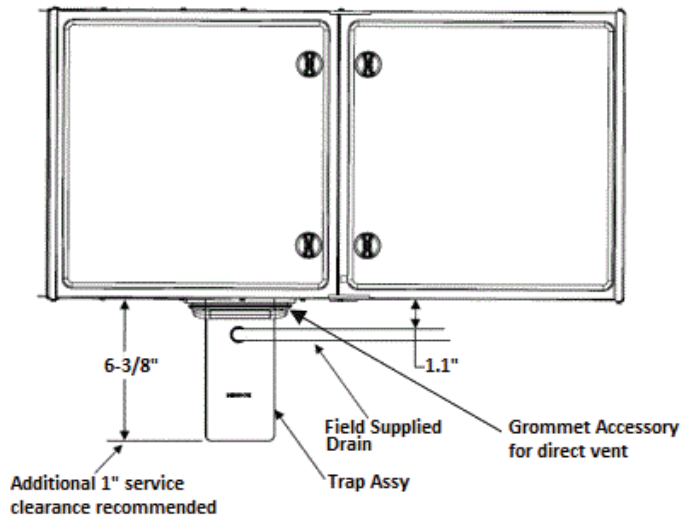

Fig. 21 – Trap Clearance in Horizontal Application
3. Allow for 6-3/8" (162 mm) of clearance underneath the furnace for the condensate trap and drain line. It is recommended to leave an additional 1" clearance under the trap for service (see Fig. 21).